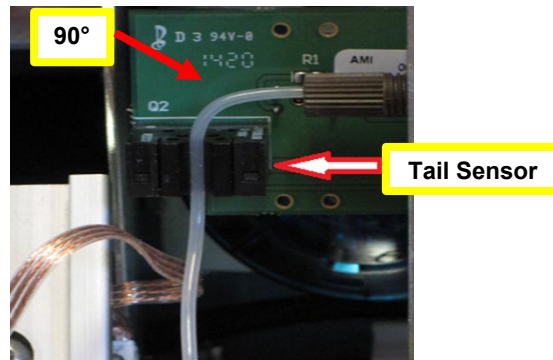

Figure 26
- 8.2. Install the new Needle to Reading Cell Tubing in the tail sensor's slot and make sure that the tube is pushed in the slot and tube makes nearly 90° angle from the reading cell through the tail sensor. Figure 26